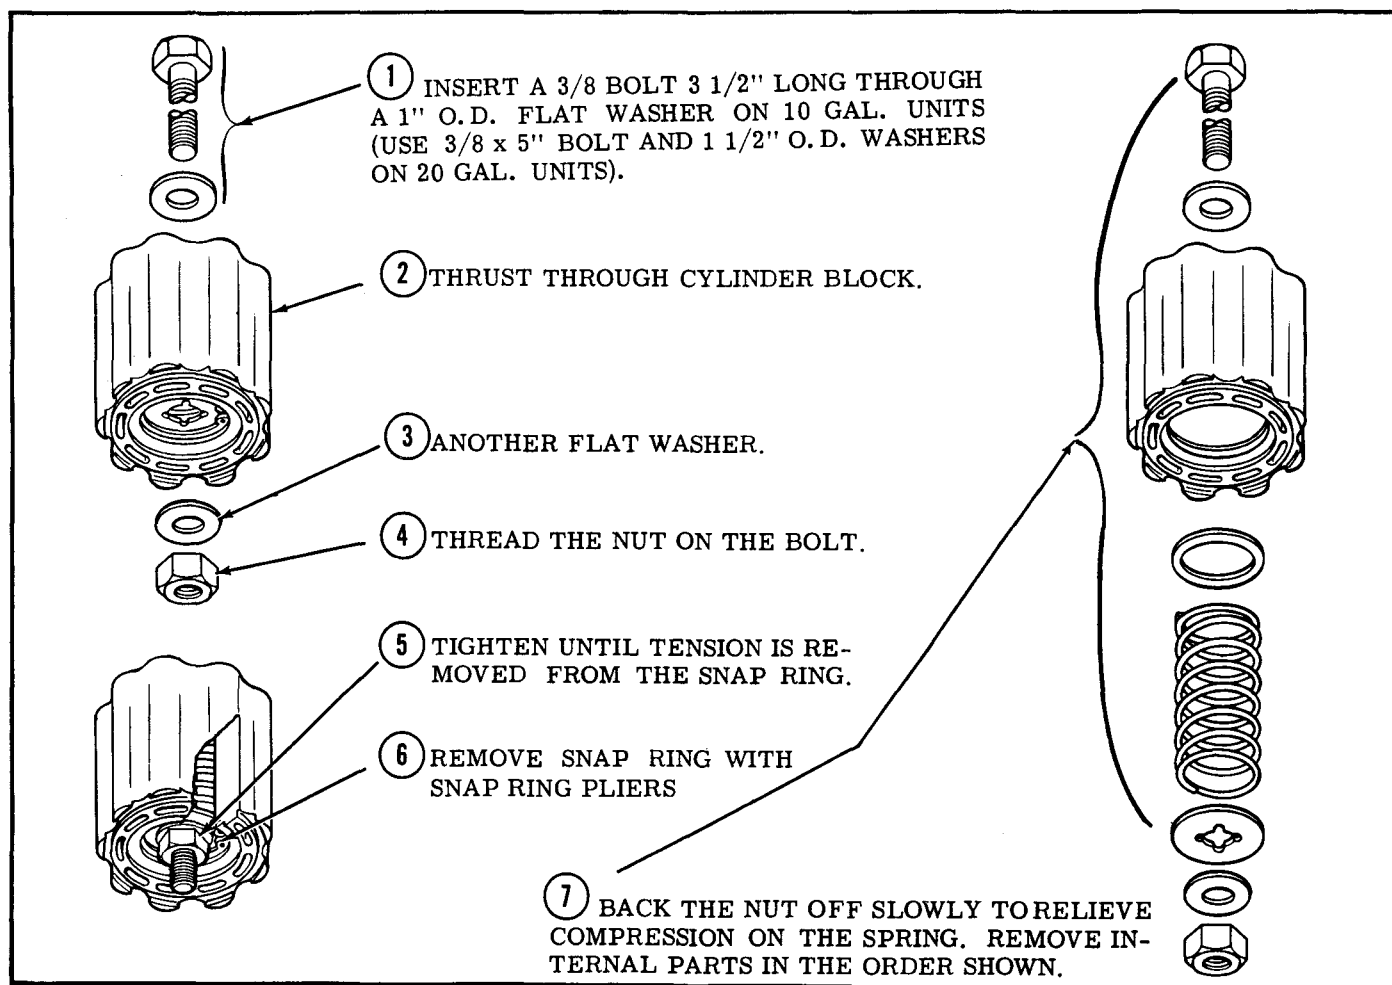

Figure 9
in Figure 9 to prevent bodily injury from the sudden release of the cylinder block spring.
4. Rotating Group Assembly - If the spring and washers were removed from the cylinder block, assemble them as shown in Figure 9.